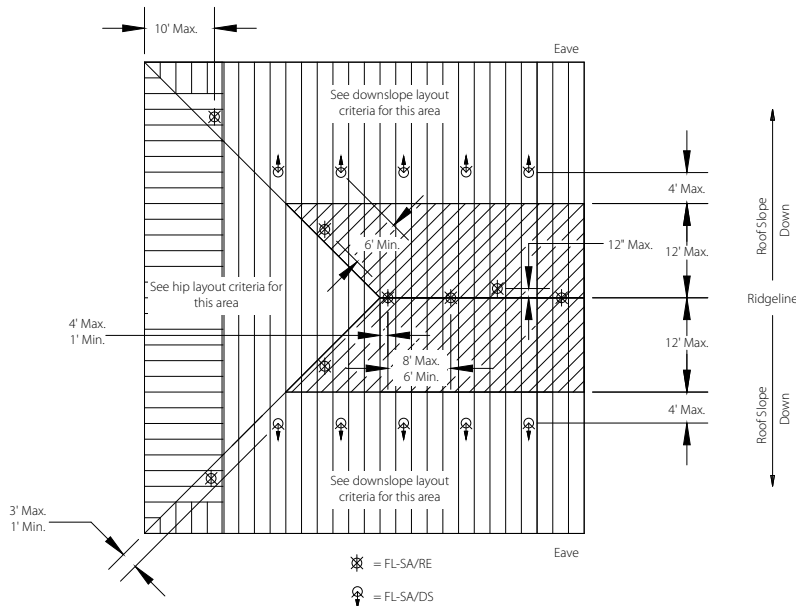

FIGURE 6: RIDGELINE LAYOUT CRITERIA
- This approach utilizes the FL-SA/RE sprinklers at the Ridgeline and downslope covering to the eave. (See FIGURE 6 for dimensional limitations)
- The maximum span of this approach is 72' or a half span of 36' as measured horizontally. (See FIGURE 6 and FIGURE 7 for dimensional limitations)